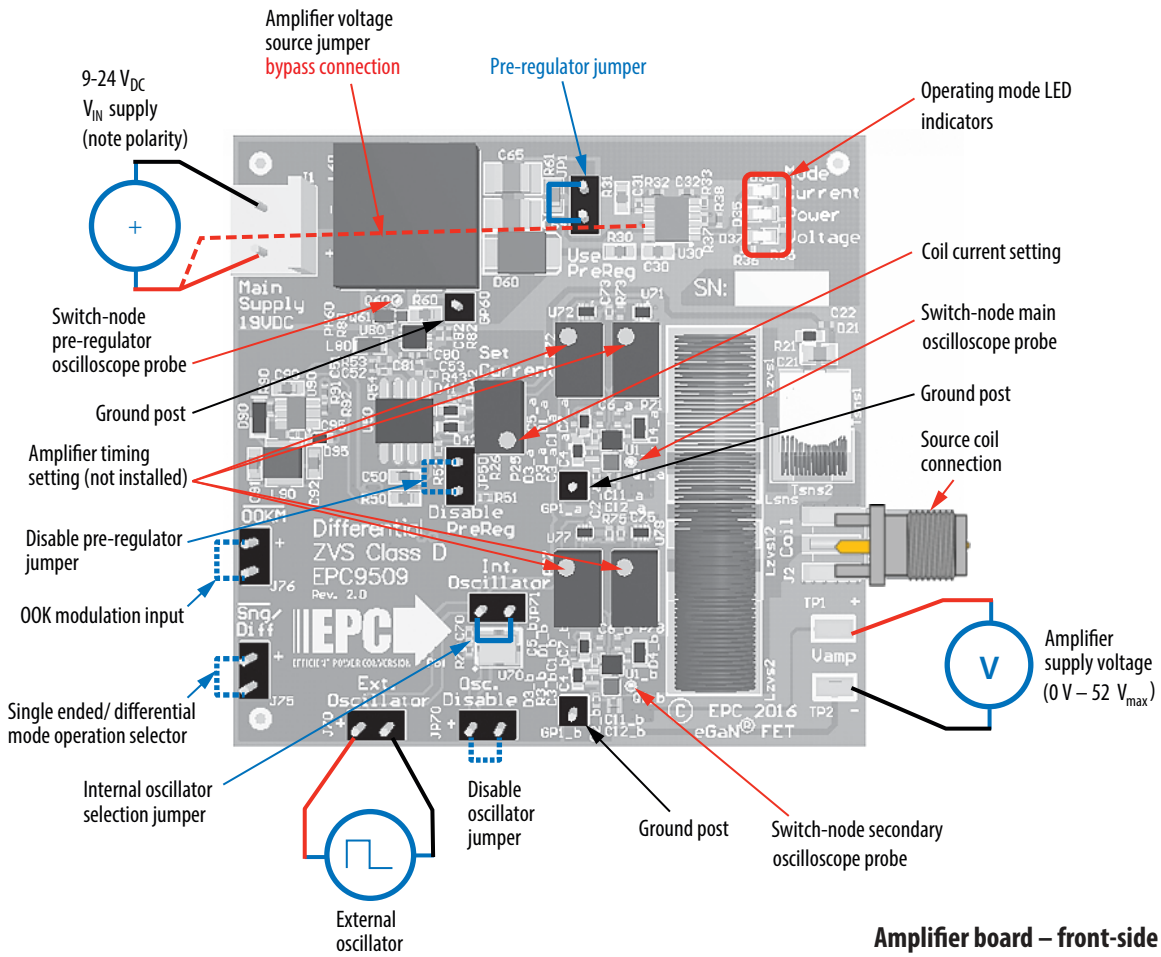

Figure 3: Proper connection and measurement setup for the amplifier board
2. With power off, connect the main input power supply bus to J1 as shown in figure 3. Note the polarity of the supply connector.
2. With power off, connect the main input power supply bus +V_{IN} to the bottom pin of JP1 and the ground to the ground connection of J1 as shown in figure 3.